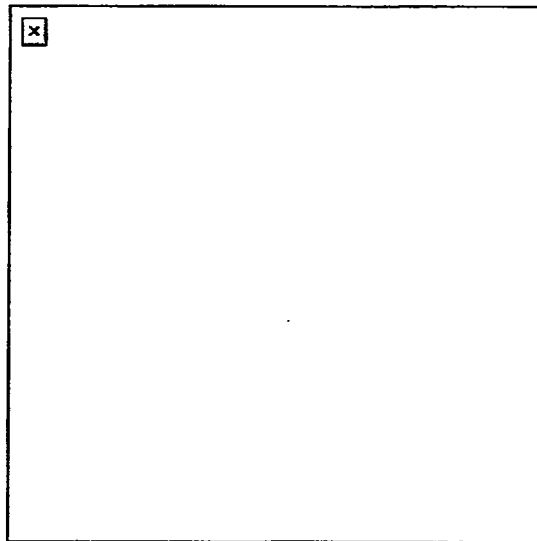

Figure 7. Point target.
- (1) Point target. Engage point targets with fixed fire using a single aiming point (Figure 7).